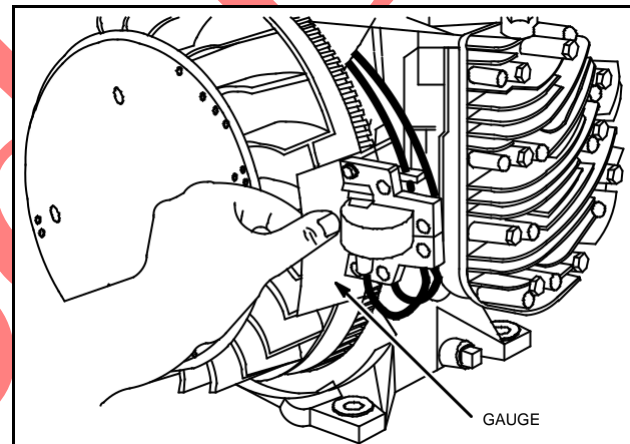

Fig. 17 – Adjust Air Gap
2. Place thickness gauge between magnet and armature laminations, Fig. 17.